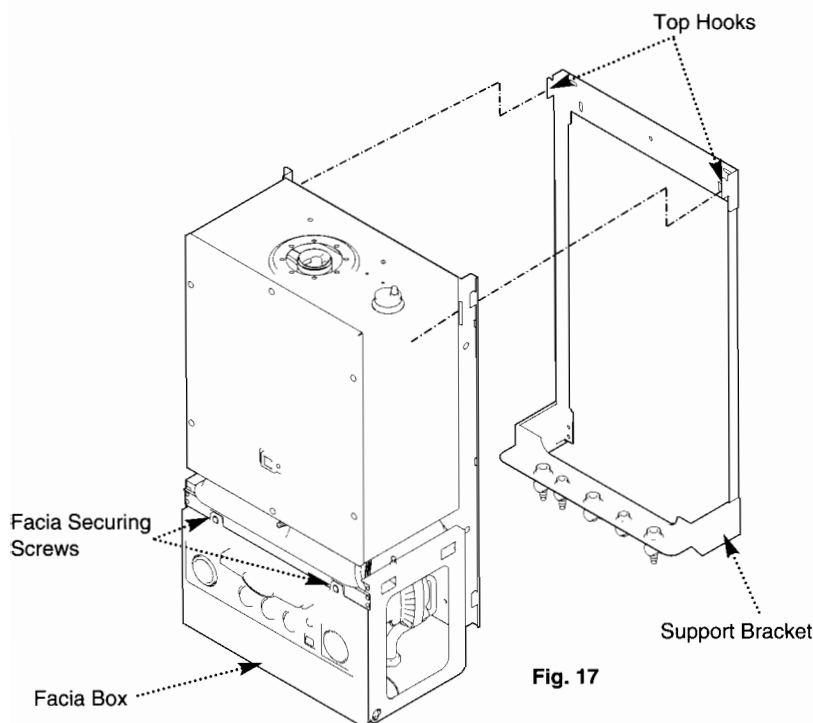

Fig. 17
3. Lift the boiler over the support bracket and engage onto the top hooks (Fig. 17).